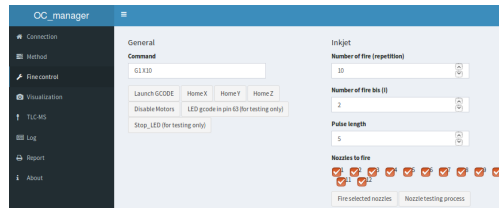

Figure 10: Fine tuning OC manager.
- In the Fine control tab (Figure 10): home the X axis and the Y axis, (if the motor are not in the good direction, turn off the full system and simply reverse the cable on the ramp)